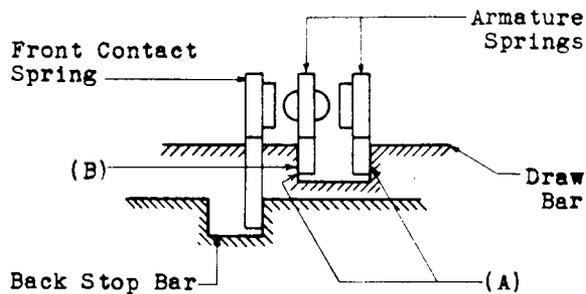

Fig. 12
(c) 232 Type Relays - Fig. 12 (A) - The armature springs shall rest against the adjacent sides of the draw bar slot when the relay is unoperated.
(d) 232 Type Relays - Fig. 12 (B) - The tension of each of the armature springs against the side of the draw bar slot nearer the armature, measured in proximity to the contact with the relay unoperated, shall be:
(e) 232-A and 232-B Relays - Fig. 12 (A) -